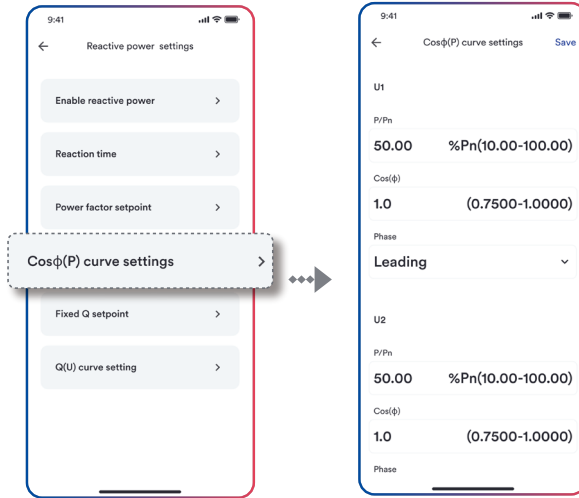

Figure 31. Cos(ϕ) curve settings
5.2.18 Cos (P)curve settings
Cos (P) curve settings is as shown in Figure 31: